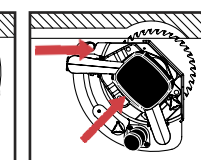

Figure 11
- Stop and unplug saw. Remove depth gauge and retract the stabilizer. Then continue the cut (see figure 11).